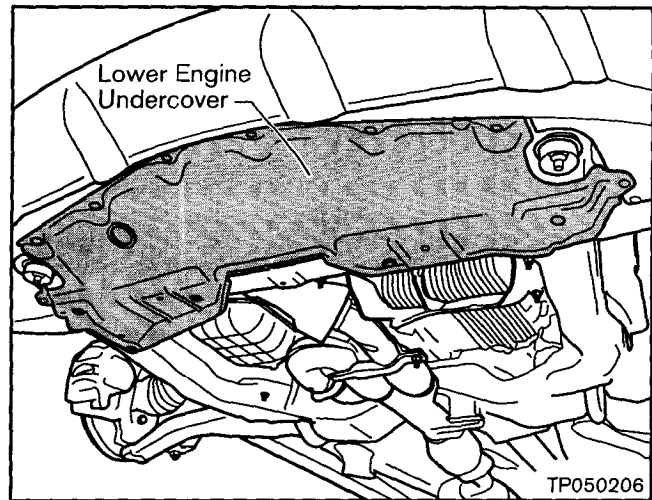

Figure 6
4. Remove the Lower Engine Undercover (see Figure 6).